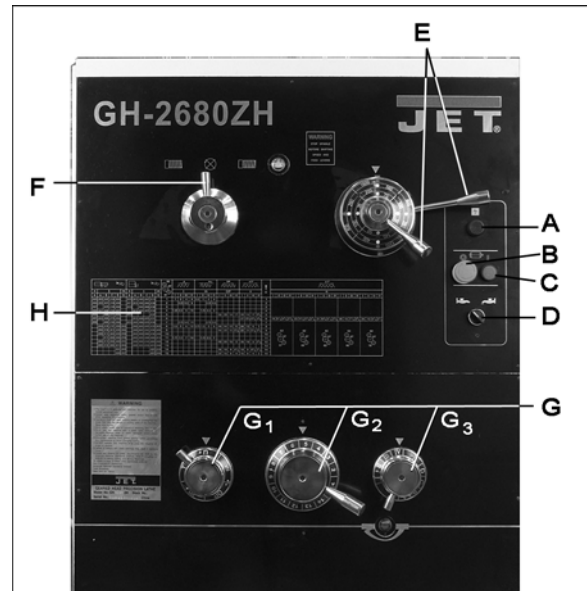

Figure 23 – Headstock Controls
- **Power Indicator Light (A, Figure 23).** Illuminates whenever lathe is receiving power.
- **Emergency Stop Button (B, Figure 23 and 24).** Shuts down all machine functions. **NOTE: Lathe will still have power.** Twist button clockwise to reset.
- **ON Button (C, Figure 23 and 24).** Activates motor.
- **Coolant On-Off Switch (D, Figure 23).** Activates coolant pump.
2. **Speed Selection Levers (E, Figure 23):** Located on front of headstock. Move levers left or right to desired spindle speed, according to accompanying chart on the dial.
- Feed Direction Lever (F, Figure 23):** Located on front of headstock. Moving the lever changes direction of feed. Center position is neutral.
- Lead and Feed Selector Levers (G, Figure 23):** Located on front of headstock. Used conjunctively to set up for threading or feeding, according to the accompanying chart (H).